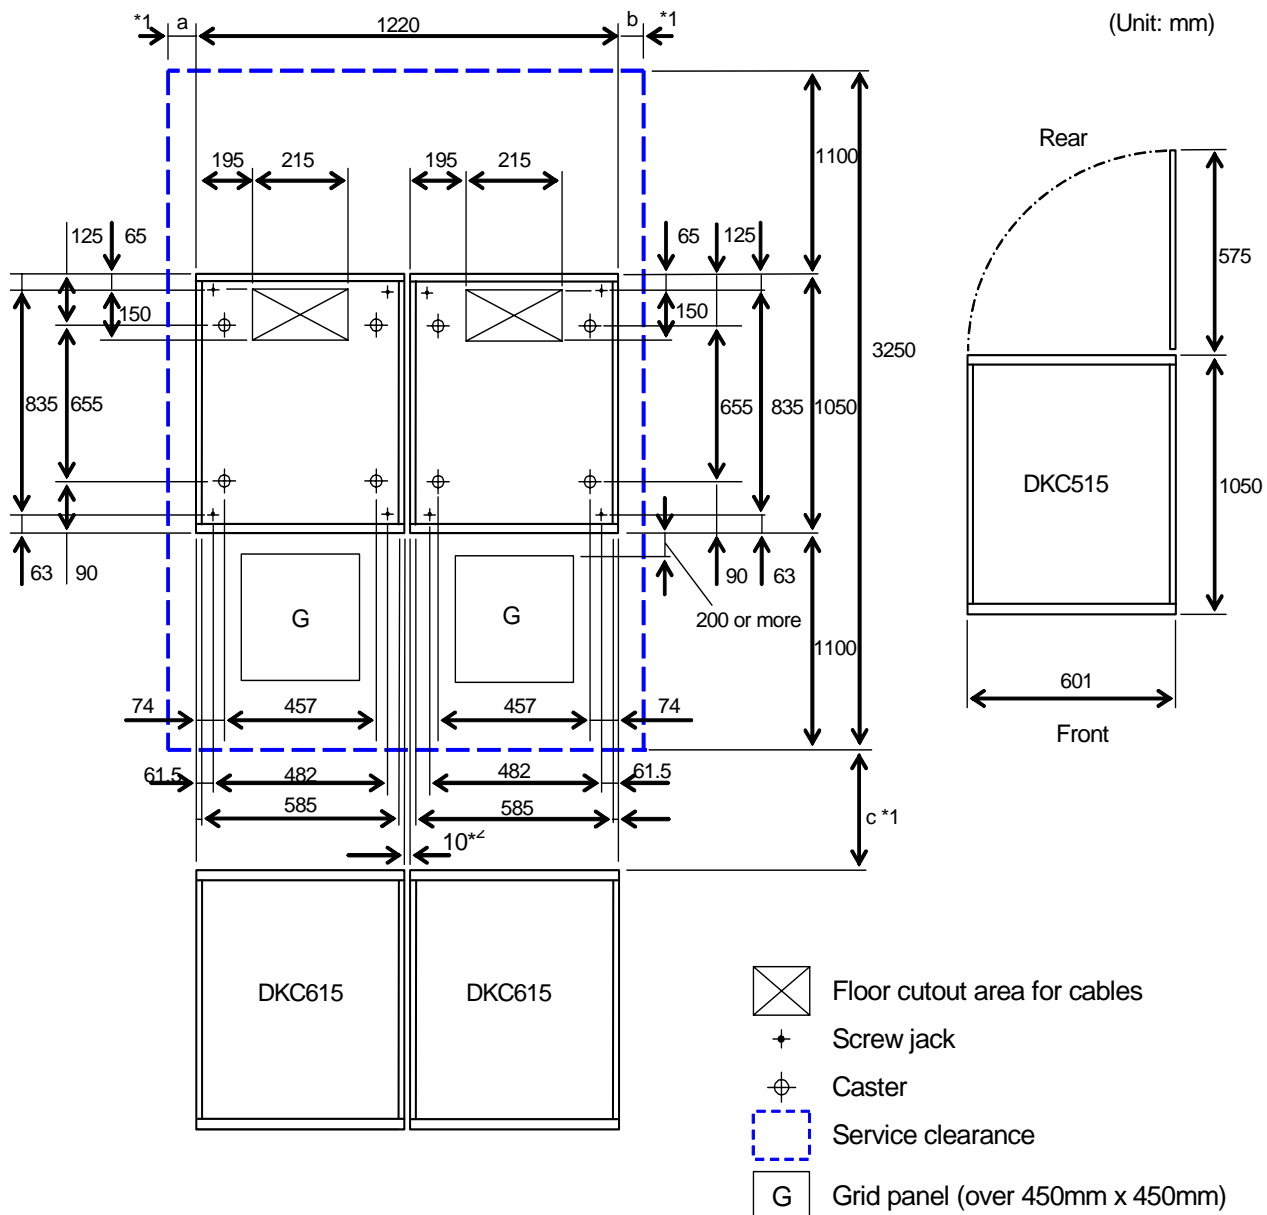

Figure 2-5 Service Clearance and Floor Cutouts: Two Racks
- Figure 2-5 shows the service clearance and floor cutout requirements for the twin-rack configuration. Table 2-4 shows the floor load rating and clearance requirements for this configuration.